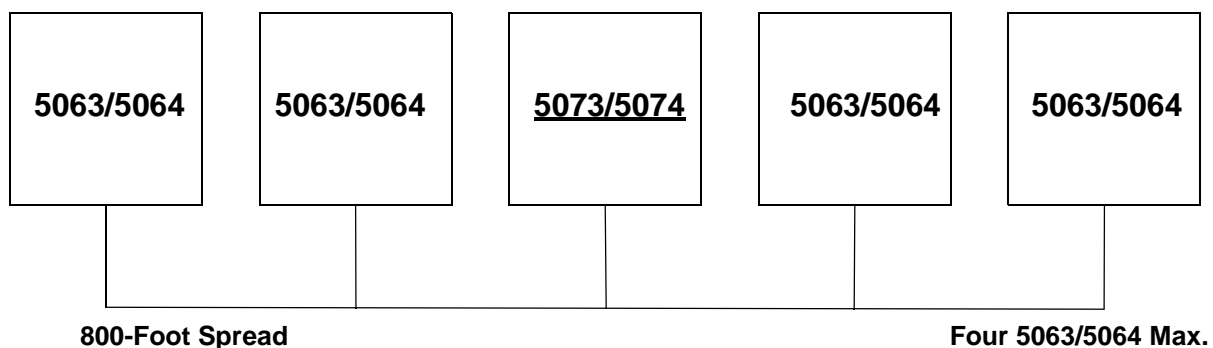

Figure 6-1: Block diagram of the 5000 Entry System Hub
- Never install a Remote Satellite more than 400 feet away from the master unit. The resistance of the wire can cause a large voltage drop after 400 feet. (Refer to Figure 6-1 and Table 6-1.)
- The 5000 Entry System will allow one control panel with four remote satellite panels in a hub configuration (see Figure 6-1). It is very important that the 5073/5074 control panel be at the center of the hub.